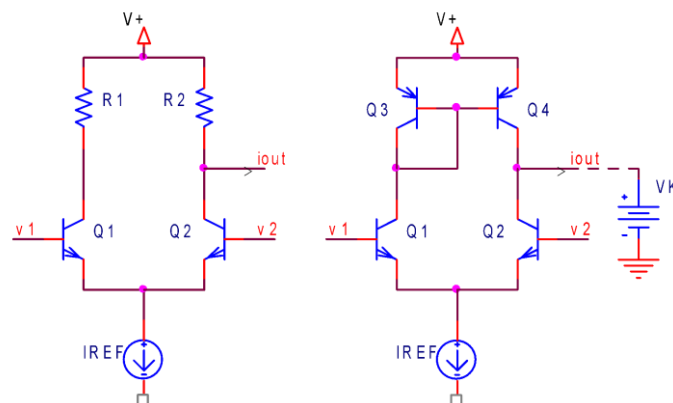

Figure 7
- 6.2. Assume a capacitor C much larger than the parasitic capacitances in the circuits in Figure 7 is connected to each of their outputs (separately). Derive, from first principles, the slew-rate for the actively-loaded differential pair in Figure 7. Show that it is equal to $SR = I_{REF}/C$ assuming $r_o \rightarrow \infty$.
💡 Remember! When we draw a “DC voltage source” - “VK” in Figure 7– in the lab this is not an ideal voltage source! Just as the current source IREF could be realized by a resistor, a transistor, or a current mirror, “VK” could be implemented using something as simple as a resistor to the ground, or resistor to VCC.